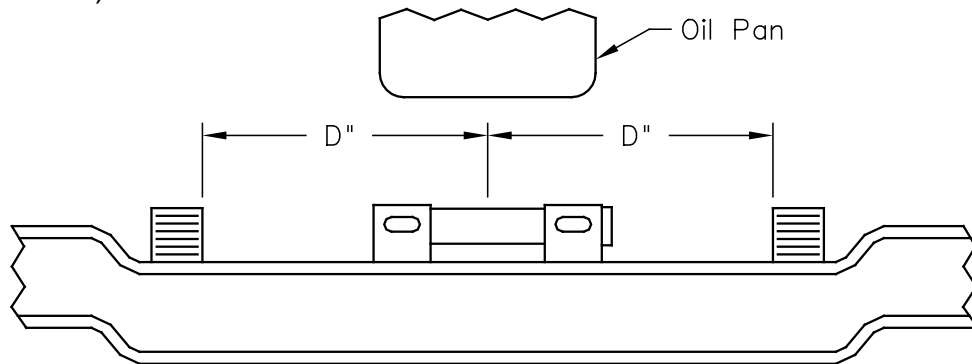

Figure 2.2-A: Front Axle Location
1. Measure and mark the center of the axle, both side-to-side and front to back, (see Figure 2.2-A).